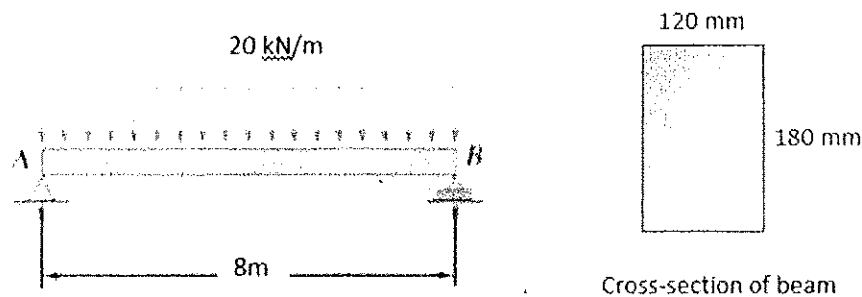

Fig.Q8
A stainless-steel beam (AB) of span 8 m, simply supported at A and B carries a UDL of 20 kN/m over its entire span. The cross-section of the beam is a rectangle with dimensions 120 mm x 180 mm as shown in the Fig. Q8.